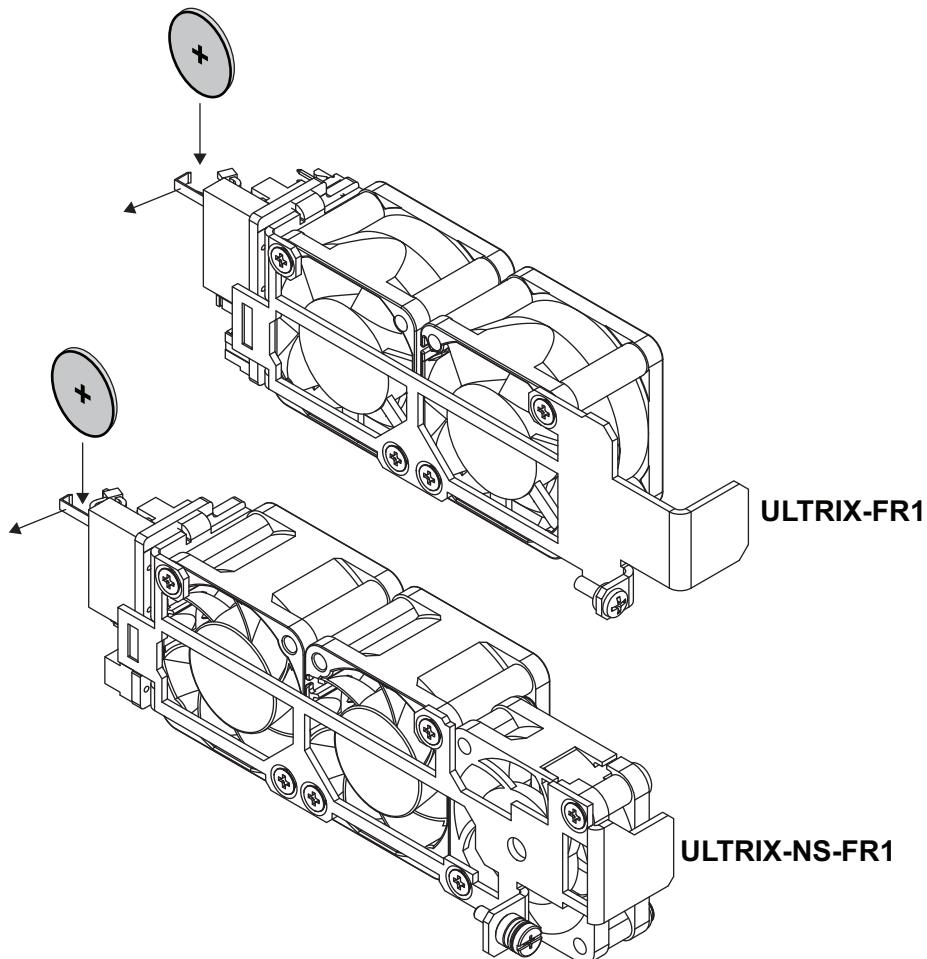

Figure 94 New Battery Orientation —ULTRIX-FR1 and ULTRIX-NS-FR1
1. Hold the battery in one hand and orient it so that the Positive side (+) faces away from you. (Figure 94)